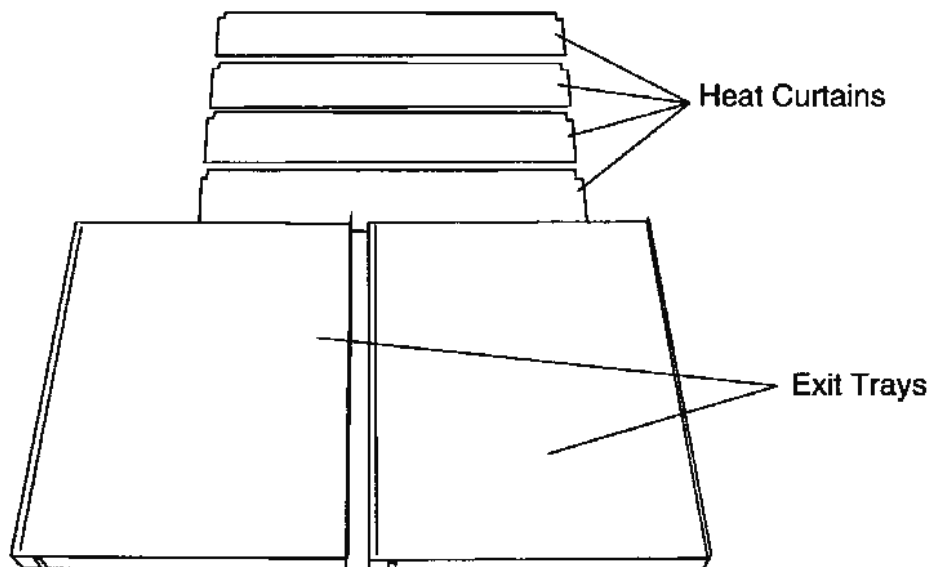

Figure 2-1
Tied down to the conveyor belt is a box containing two (2) exit trays and four (4) heat curtains. Refer to Figure 2-1. Check to make sure you received the correct quantity of parts.